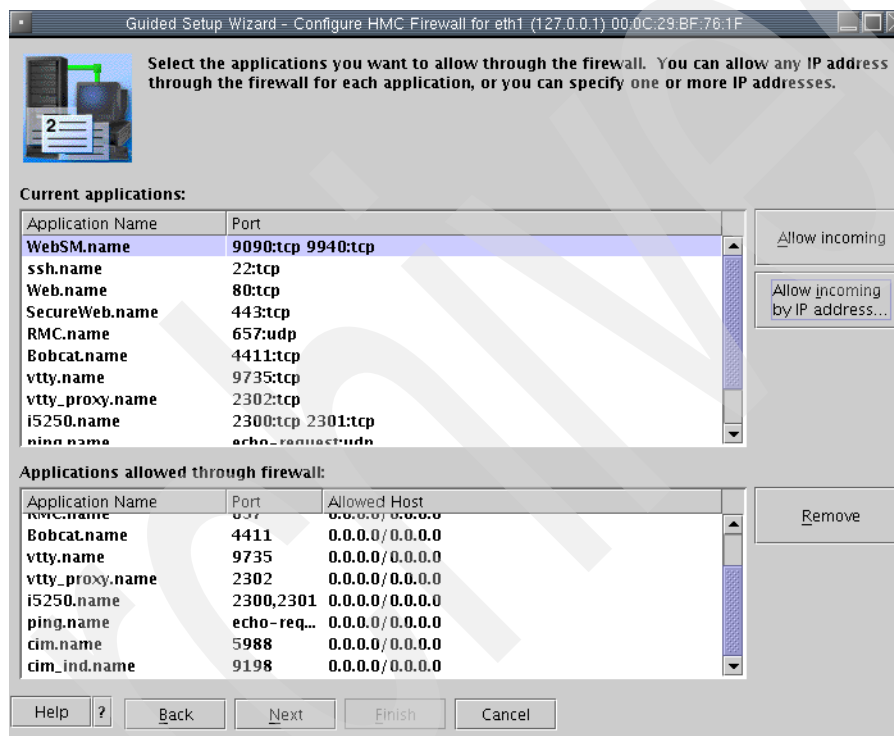

Figure 4-25 Guided Setup - eth1 firewall websm
25. The Guided Setup Wizard - Configure HMC firewall panel appears next (see Figure 4-25 on page 124). In the top panel (current applications) are listed all the available applications that are on the HMC. In the bottom pane (Applications allowed through firewall) are all the applications available to the open network through the HMC firewall. You can decide to remove applications completely from the firewall by selecting the relevant application from the bottom panel and clicking the **Remove** button.